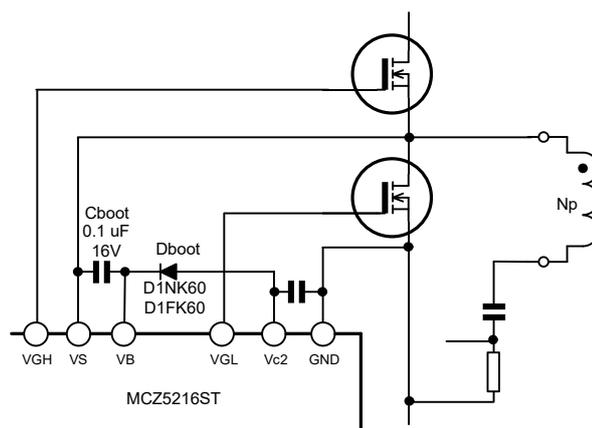

Fig 32. Boot Strap Hi-Side Vcc generated Circuit
As shown in **Fig 32**, the floating power supply (VB) for Hi-Side MOSFET drive is generated by the boot strap which uses a diode (Dboot) and a floating smoothing capacitor (Cboot) towards the high voltage side, taking the 12.5V regulator output capacitor at Vc2 as a voltage source.